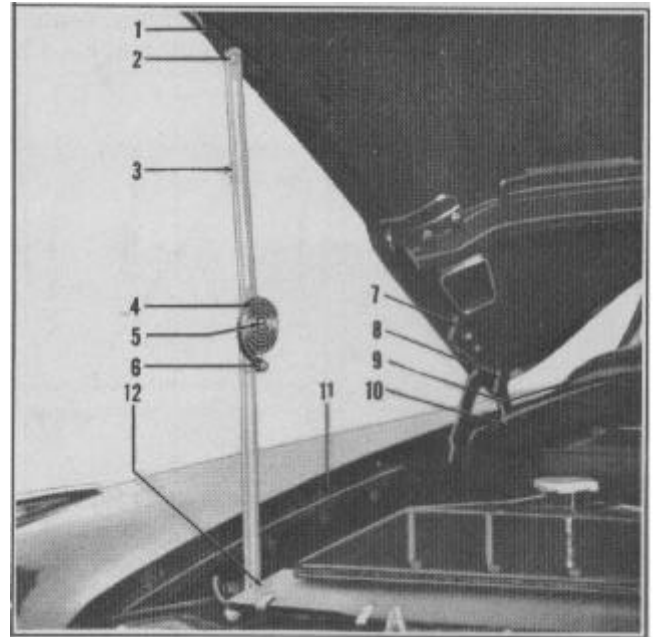

FIGURE 2
1. Raise hood (1) Figure 2, and place a prop under front of hood.
2. Remove the two hood prop bolts (2) (one each side). Hood props (3) remain attached to fender side dust shields (12).
3. Remove the two hood hinge bolts (7) and (8) from each side at rear of hood.